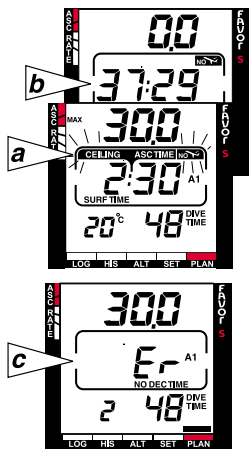

Fig. 3.16 DISPLAYS AFTER VIOLATED DECOMPRESSION DIVE
- the ceiling depth is exceeded. A downward pointing arrow and a blinking error warning Er will appear, and a continuous beeping alarm is given. (Fig.3.16). You should immediately descend to or below the ceiling. The dive computer will otherwise enter a permanent error mode in three minutes, indicated by a non-blinking Er.
If you ascend above the ceiling, a downward pointing arrow will appear (Fig 3.16). In addition a blinking error warning Er reminds you that you have only three minutes to correct the situation. You must immediately descend to or below the ceiling.